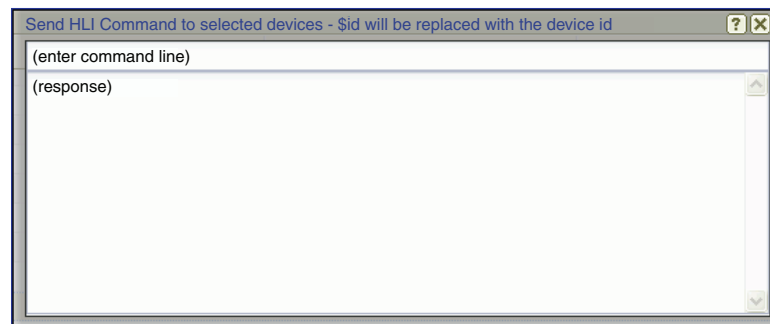

Figure 162. HLI Command Window
4. Select **Send HLI command**. A HLI command window opens (see figure 162).